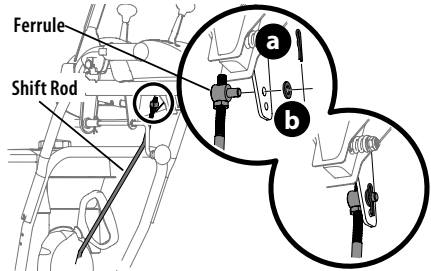

Figure 26
- Remove hairpin clip (c) and washer (d) from ferrule on end of shift rod (Figure 26 inset).
- Insert ferrule into top hole of shift lever and secure with hairpin clip (c) and washer (d) removed in Step 8 (Figure 26). Ferrule may need to be adjusted up or down.